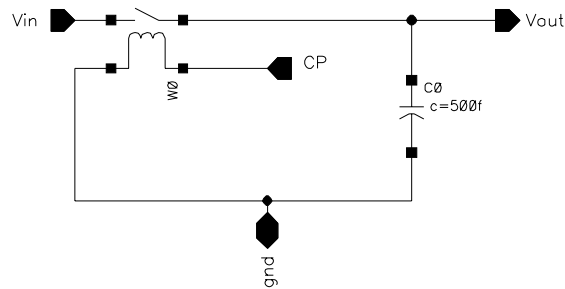

Figure 12. Track-and-hold circuit.
- The track-and-hold **ToH** function. Arrange the schematic like in Figure 12. The components (**switch** and **cap**) can be found in **analogLib**.